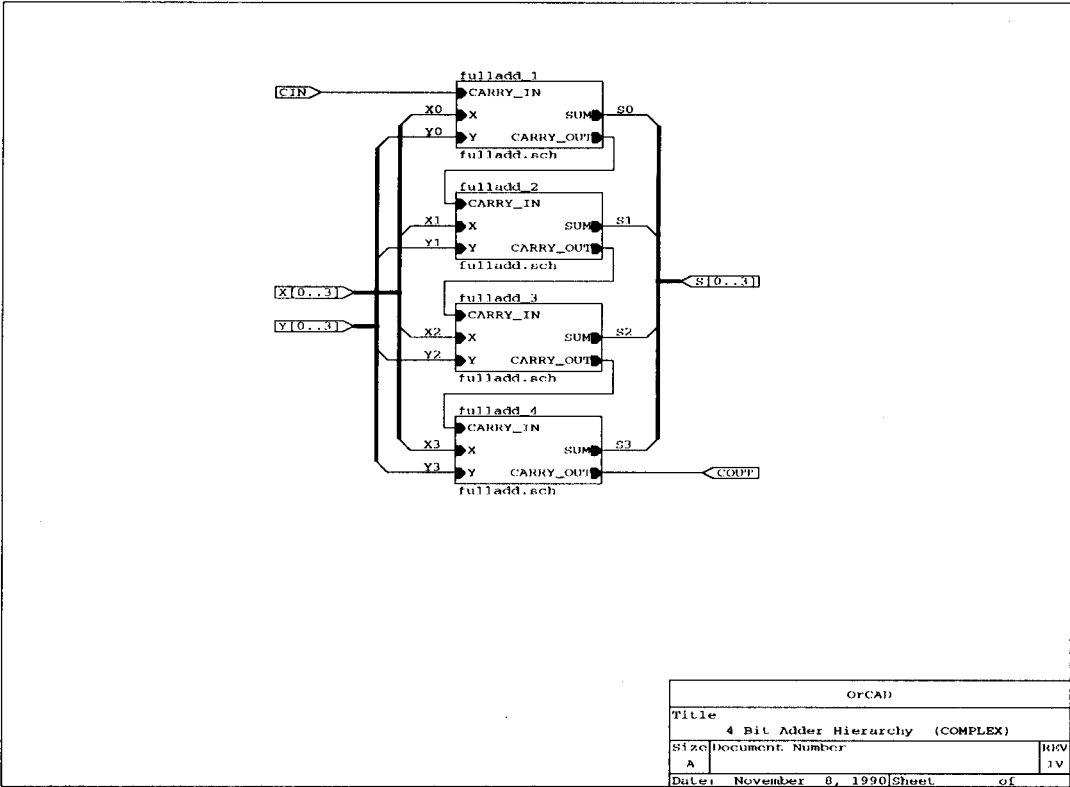

Figure 8-8. The root worksheet of the 4-bit adder design.
This section describes a three-sheet complex hierarchy. Complex hierarchies are very useful when designing common logic blocks that are repeated. Figure 8-8 shows the root worksheet for the 4-bit adder design.
7. Select **Draft** and then select **Execute**. The **4BIT** root worksheet displays (figure 8-8).